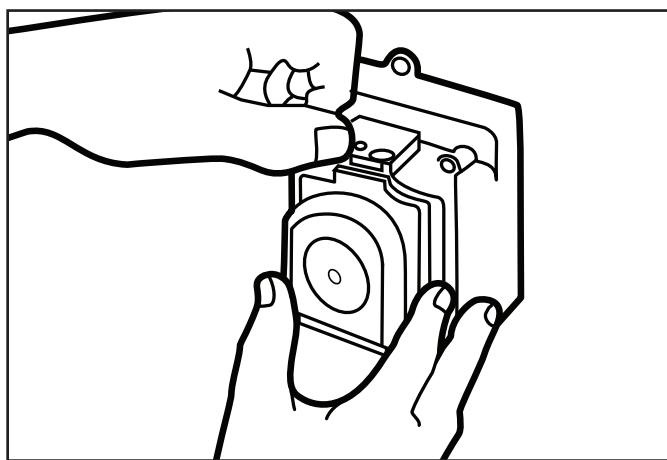

Figure 22. Lock the Cover
- To lock the cover in place, press down on the cover while turning the vertical tab 180 degrees from right to left. Install the Phillips head locking screw. See Figure 22.